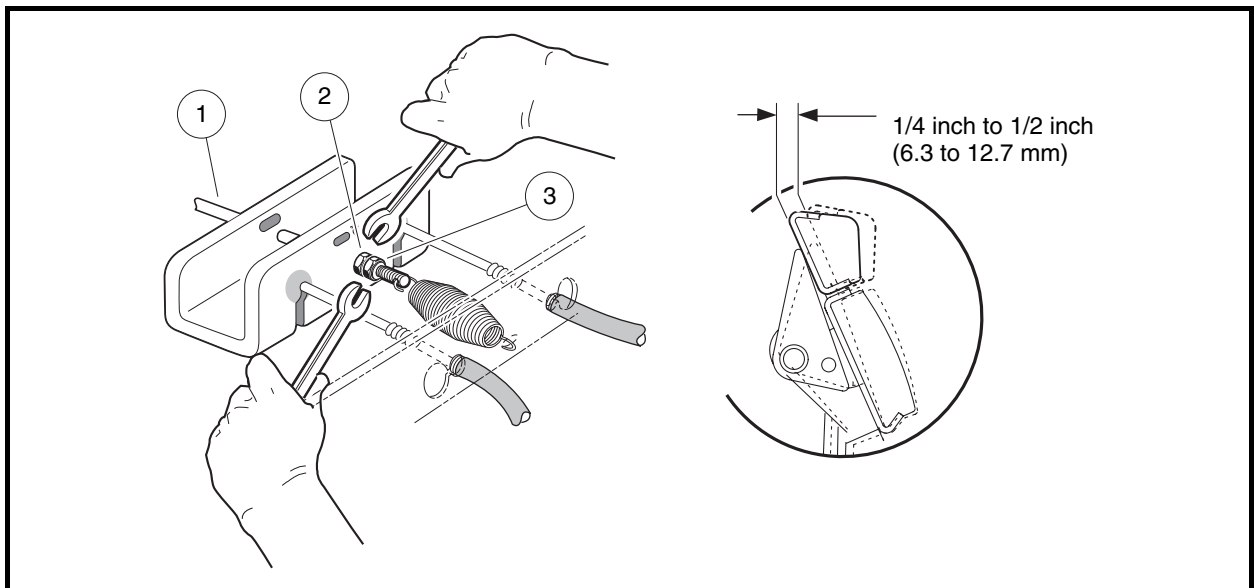

Figure 5-12 Brake Pedal Free-Play Adjustment
- 3.2. Tighten the nut (2) on the equalizer rod (1) so that the brake pedal free play is 1/4 to 1/2 inch (6.3 to 12.7 mm) (**Figure 5-12, Page 5-12**).